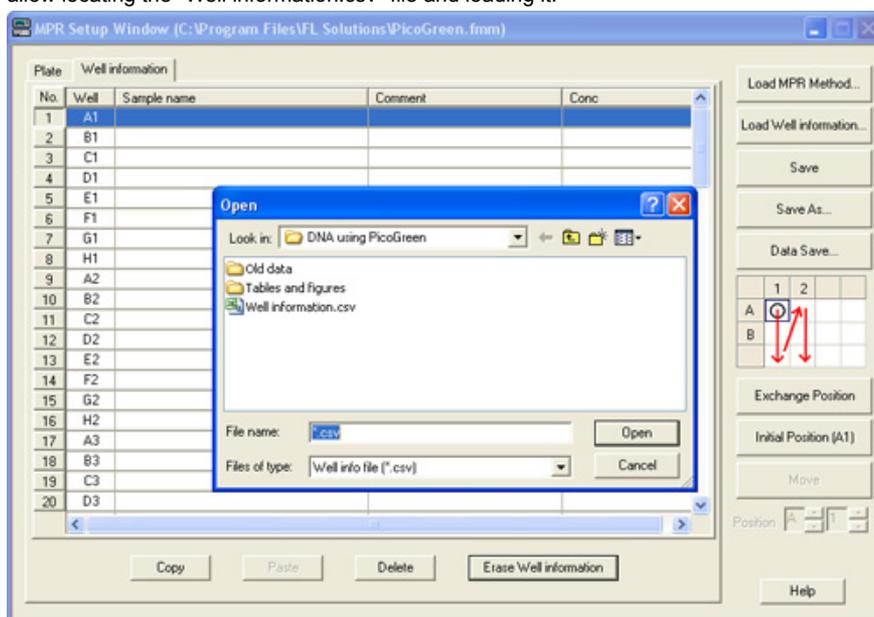

Figure 9. Loading well sample information.
- Then click on the **Load Well information...** button. A Windows explorer window will open which as shown in Figure 9, which will allow locating the "Well information.csv" file and loading it.